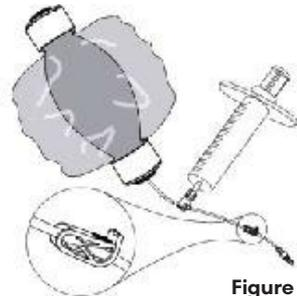

Figure 1a
2. Close the “c” clamp positioned closed to the exit port (Figures 1a, 1b).